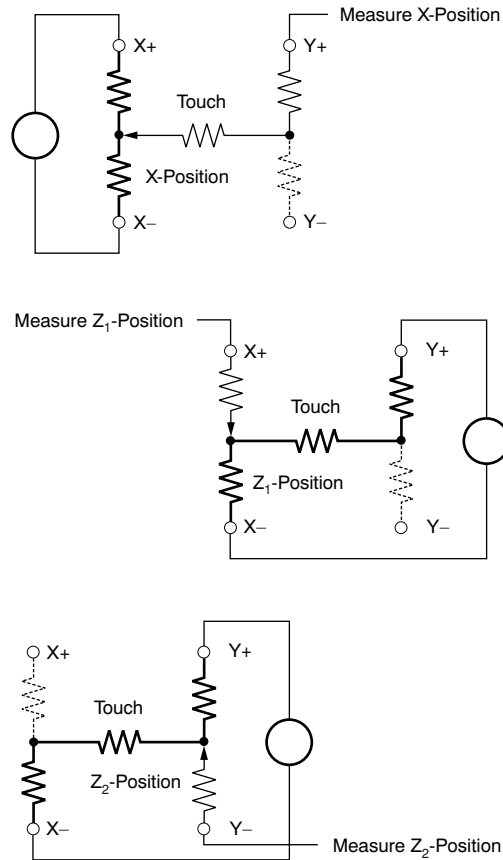

Figure 22. Pressure Measurement
Measuring touch pressure (Z) can also be done with the TSC2005. To determine pen or finger touch, the pressure of the *touch* must be determined. Generally, it is not necessary to have very high performance for this test; therefore, 10-bit resolution mode is recommended (however, data sheet calculations are shown using 12-bit resolution mode). There are several different ways of performing this measurement. The TSC2005 supports two methods. The first method requires knowing the X-plate resistance, the measurement of the X-Position, and two additional cross panel measurements (Z_2 and Z_1) of the touch screen (see Figure 22). Equation 1 calculates the touch resistance: